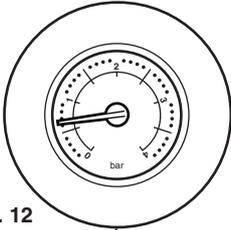

Fig. 12
2. With the system cold and the boiler not operating the pressure should be at least 0.5 bar. During operation the pressure should not exceed 2.5 bar, and will normally be between 1.0 and 2.0 (Figs. 12 & 13).